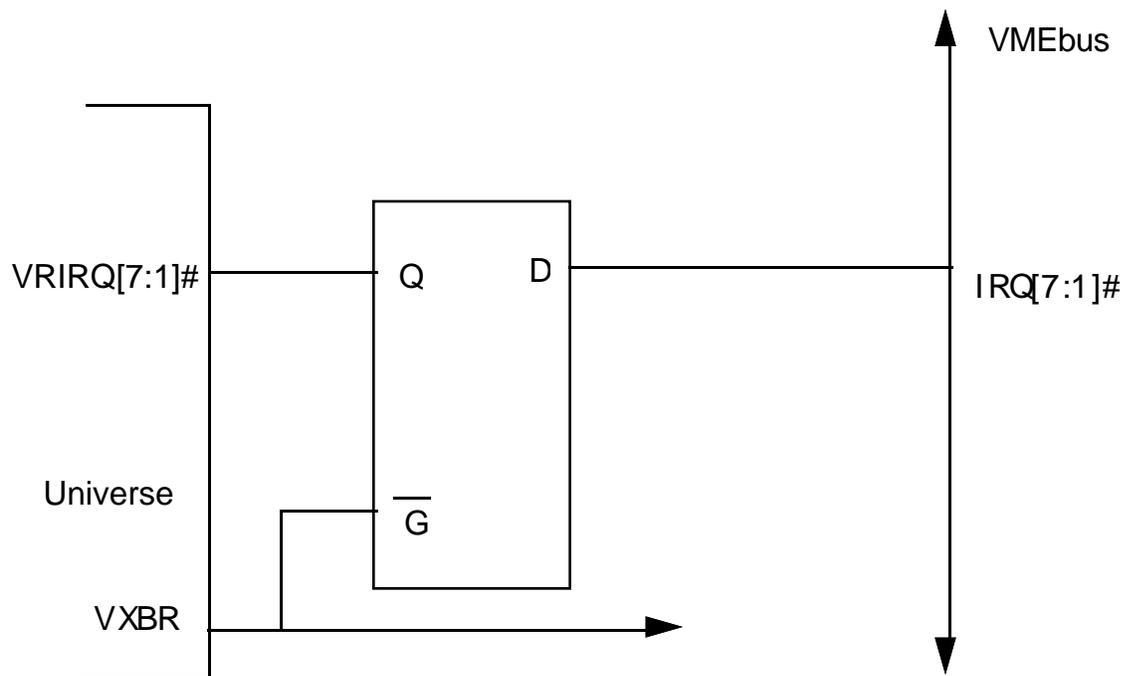

Figure 1.5: Release When Done IRQ workaround
- 1) With the Universe's requester placed in Release When Done mode (RWD), a transparent latch can be used to gate the incoming IRQ lines. This gating technique will prevent the Universe from seeing an interrupt during the vulnerable error window. This hardware workaround will not work when the requester is in Release On Request mode (ROR). Please see Figure 1.5.